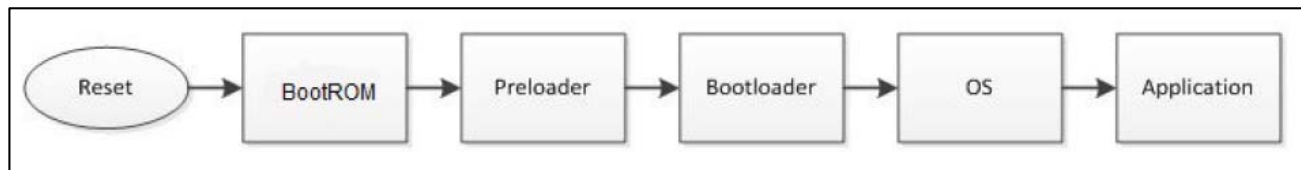

Figure 3 – Cyclone V SoC Boot Process[3]
- The typical boot process for the HPS is described in Figure 3.